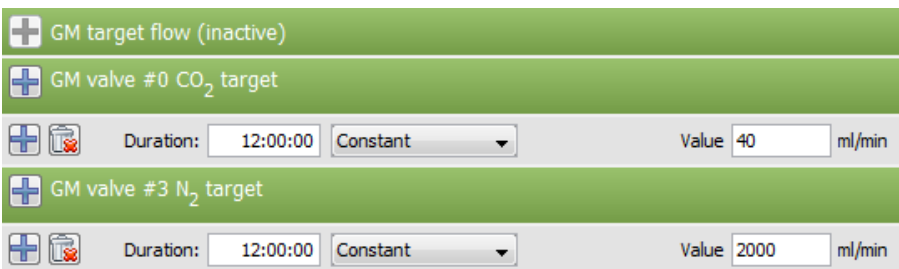

Fig. 34 Gas Mixer protocol in absolute mode
- **Absolute** – this mode sets absolute flow on **valves** and the absolute target flow is computed as a sum of **valves** flow (Fig. 34) thus the GM target flow **accessory** is inactive in **protocol**.